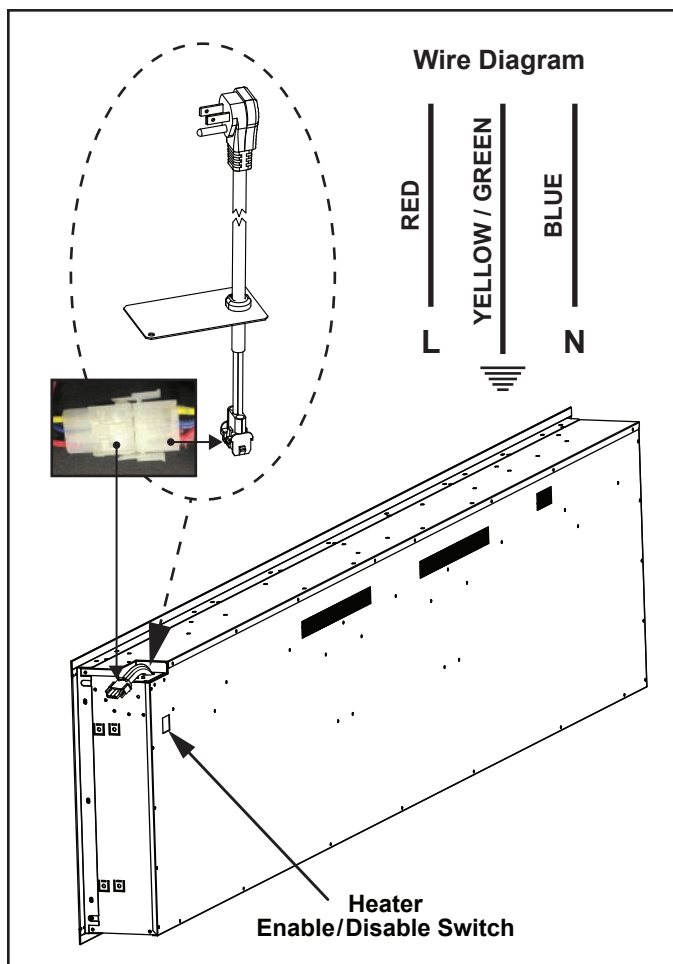

Figure 4.3 Optional Power Cord Assembly
3. Connect the three conductor wire connector to the connector on the block supplied with the power cord kit. See Figure 4.3.